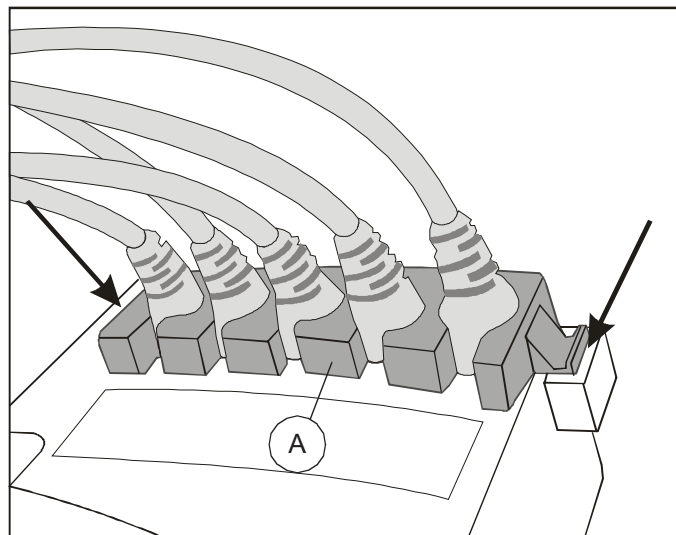

Figure 10: Control box cable retainer
- 11.1.3 Insert a small flat bladed screwdriver at either end of the control box cable retainer (Fig 10, Item A) as indicated by the arrows to release the fixing clips. Remove the cable retainer.
- 11.2.3 Connect the four actuator cables (Fig , Item 15/16/17/18) and OpenBus cable (Fig , Item 20) to the control box, making sure each cable is connected to the correct socket as previously noted. Thread the retainer (Fig 10, Item A) over the cables and clip it into place.